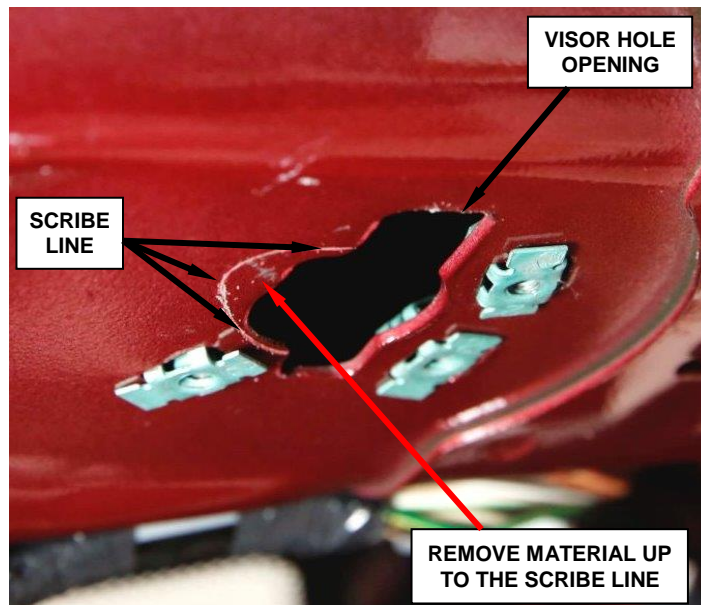

Figure 13 – Scribe Mark (right side shown)
32. Remove and save the left template. Verify that the scribe mark is visible (Figure 13).
34. Remove and save the right template. Verify that the scribe mark is visible (Figure 13).